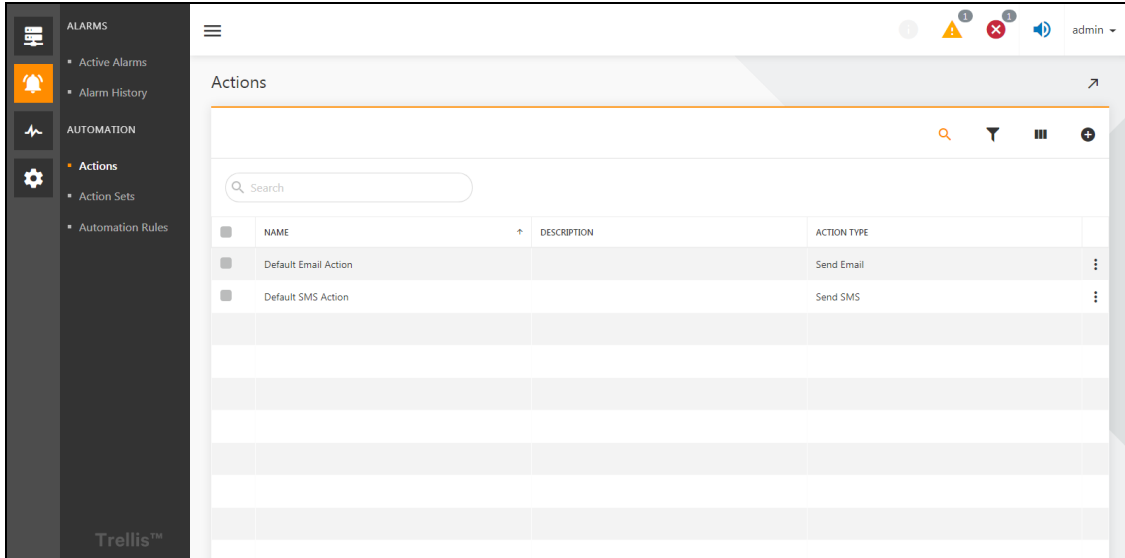

Figure 7.5
1. Click on  icon, then click on the “Actions” to enter the Actions settings page, as shown in **Figure 7.5** on the next page. Click the button on the right to edit the default email notification action or the default SMS notification action.